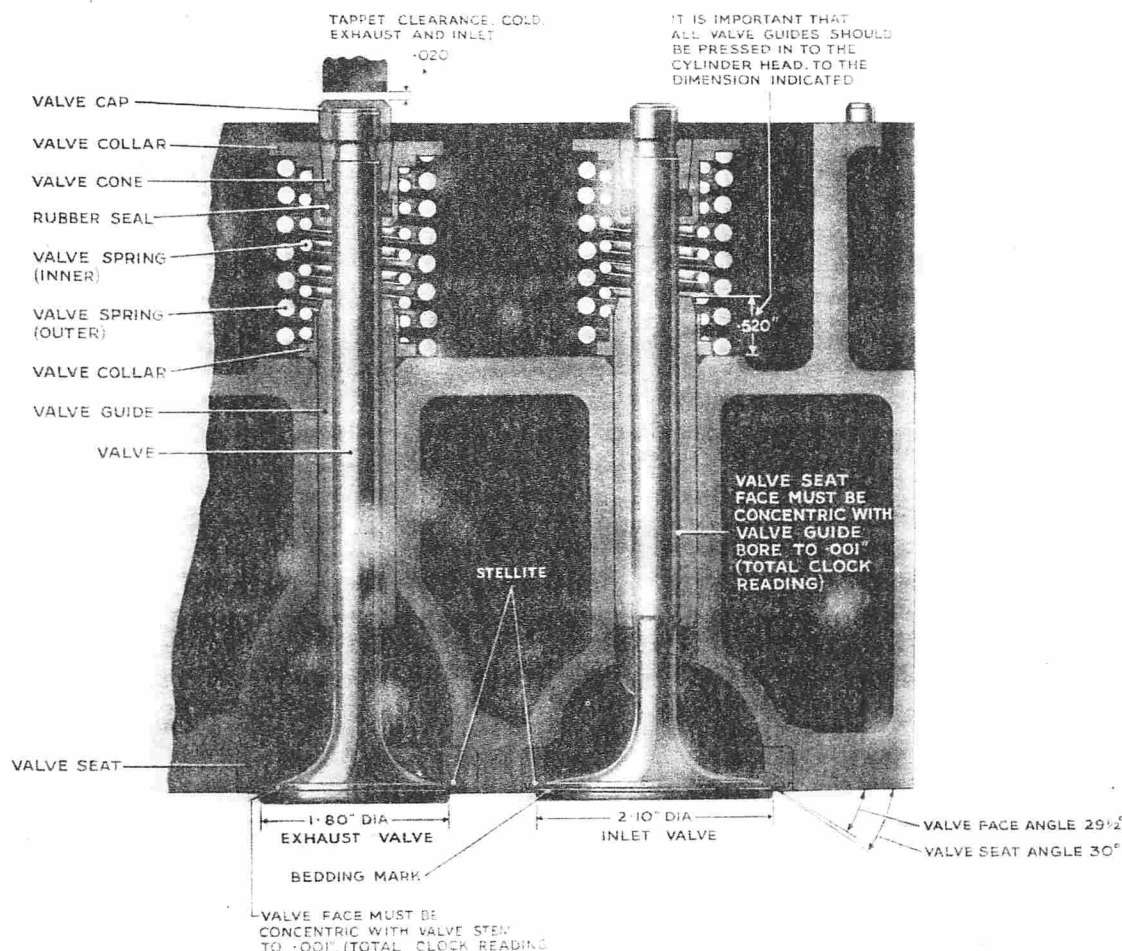

FIG. 14. VALVES AND SPRINGS IN POSITION
Both valves are stellite-faced and have hard-chrome-plated stems. The valves can be distinguished by the difference in size across their heads, the exhaust being 1.80 in. dia., and the inlet 2.10 in. dia. (Fig. 14).
2. The valve guides are an interference fit in the heads and must be pressed in and out when replacements are necessary. See Fig. 14 for position of valve guide in head.
4. When the valves and seats have been re-cut, or when the valves and seats are in good condition, they should be lightly lapped together to give a perfect seating. The seating mark should be a thin line towards the top of the seat (Fig. 14).